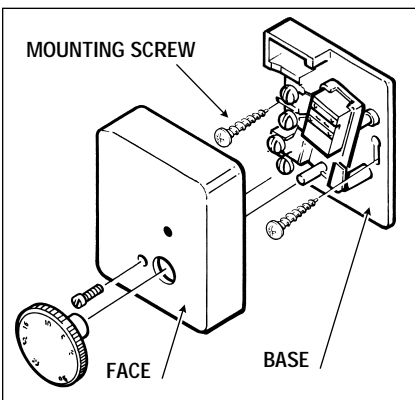

Figure 3-24 Thermostat Installation
4. Remove the adjusting knob and face cover. Mark and drill mounting holes. Mount thermostat using the screws provided. (See Figure 3-24)
3. Remove the adjusting knob and face cover. Mark and drill mounting holes. Mount thermostat using the screws provided. (See Figure 3-24)